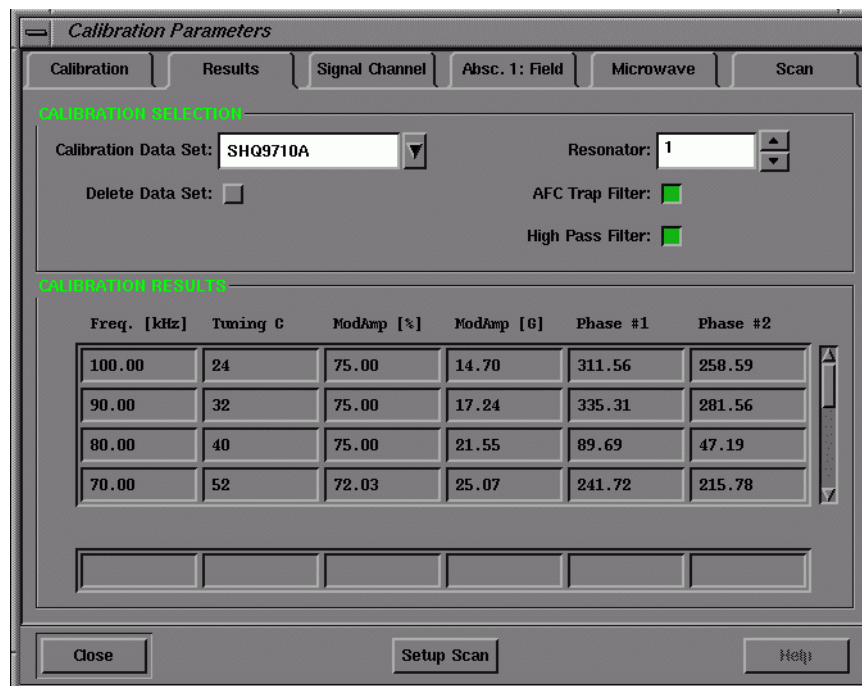

Figure 17-14 The calibration results.
20. **Observe the calibration results.** The Results folder consists of a table of parameter values and settings for each modulation frequency. The first column is the modulation frequency. For modulation frequencies greater than or equal to 50 kHz, the optimal tuning capacitor value is listed in the second column. The third column contains the value of Mod Amp [% max]. Mod Amp [G] in the fourth column is the measured maximum modulation amplitude when the corresponding Mod Amp [% max] is used. Phase #1 and Phase #2, in columns five and six respectively, are the phases at which the first and second harmonic signals are nulled. (See Figure 17-14.)
21. **Check the Mod. Amp [G] at 100 kHz.** The calibration routine performs its task sequentially, starting with the highest modulation frequency and continuing for each selected modulation frequency. As each parameter is determined, it is displayed in the table. (See Figure 17-14.) Wait until the 100 kHz calibration is completed. Click the **Pause** button of the Acquisition Control buttons. Note the value in the fourth column of the table, Mod Amp [G]. Compare the Mod Amp [G] at 100 kHz with the values listed for your cavity in Table 17-1. If the value obtained by the calibration routine is slightly less than or approximately equal to the value listed in Table 17-1, allow the calibration routine to continue its task by clicking the **Pause** button again and proceed to Step 23. If the value exceeds the values listed in Table 17-1, stop the calibration routine by clicking the **Run/Abort** button in the Acquisition Control buttons. Values that are too high can allow excessive current to flow through the modulation coils of the cavity at the maximum modulation amplitude, resulting in damaged modulation coils.